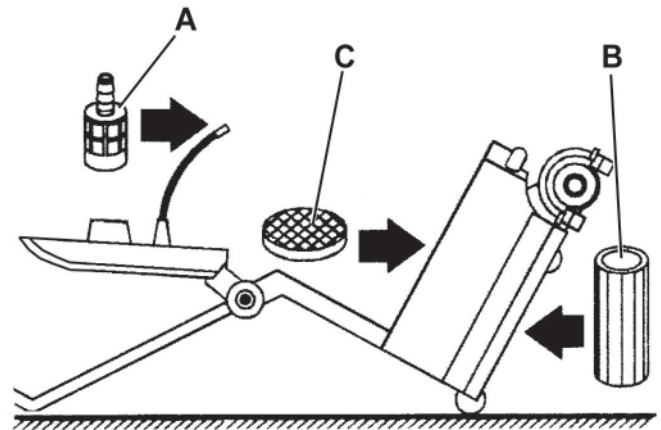

Figure 5
1. Turn the main switch (2) to "0".
2. Lift the brush and the squeegees with the pedal (25).
4. Drain the solution tank (14) and clean it with clean water.
5. Drain the recovery tank (15) and clean it with clean water.
7. Remove the brush (20) and clean it with clean water.
9. Check the solution filter (A, Fig. 5) and pre-filter (B). Clean them with clean water and replace them if necessary.
10. Check the drain filter (C). Clean it with air and replace it if it is clogged.